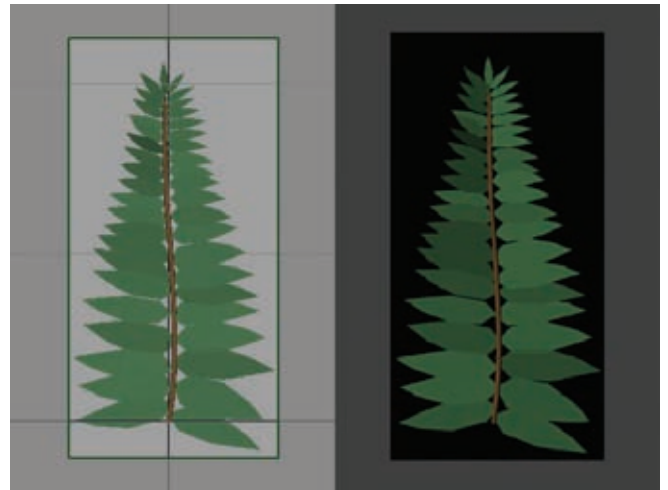

Figure 2.28
9. Back in the top view, in the panel view menus select View → Camera Settings → Resolution Gate. Also check the Vertical option rather than the default Horizontal, if it's not already. You should see a box appear. Position your camera as best you can so that the branch is within the box. When you have it positioned, you can render it by clicking the Render Current Frame button at the far right of the Status Line (Figure 2.28).